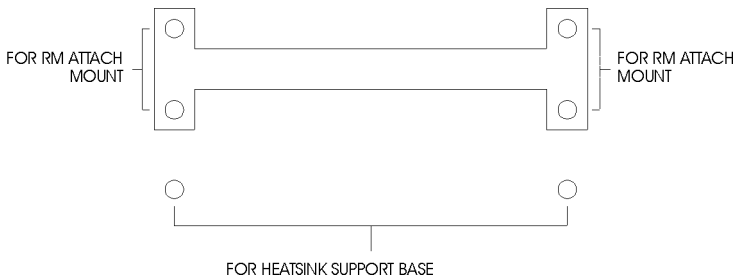

Fig. 15
1. Refer to Fig. 15 install the Heatsink Support Base onto the motherboard, insert the two plastic nail to the hole in the Heatsink Support Base as following diagram: